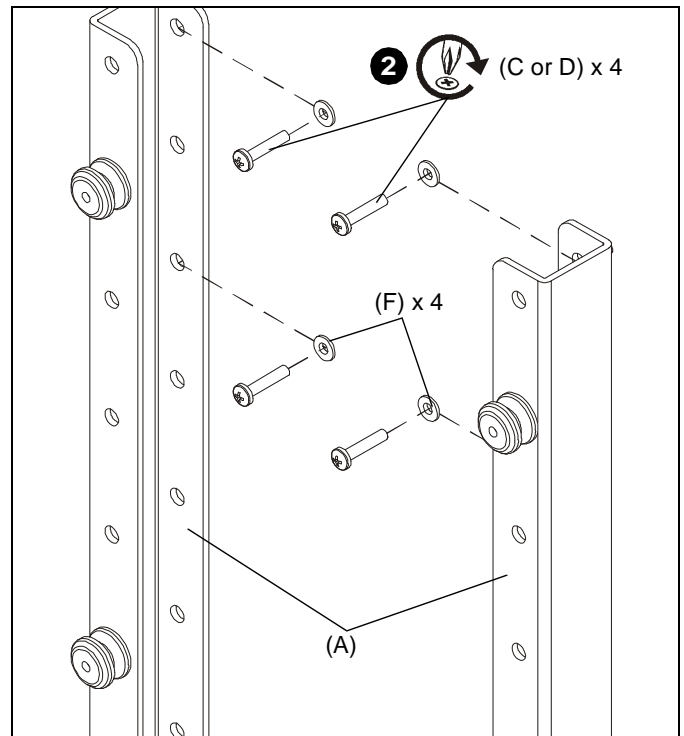

Figure 2
2. Attach interface brackets (A) to back of display using four M4 x 12mm (C) **OR** four M4 x 20mm (D) Phillips cap head screws and four shoulder washers (F). (See Figure 2)